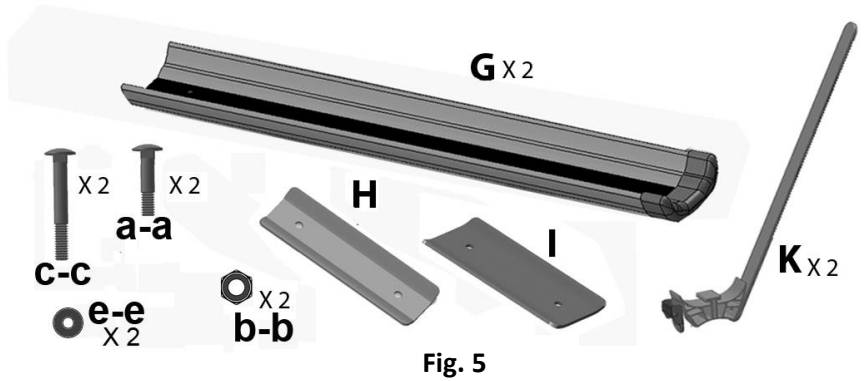

Fig. 5
**Per Fig. 5:** Identify required components (quantity indicated is per wheel tray)